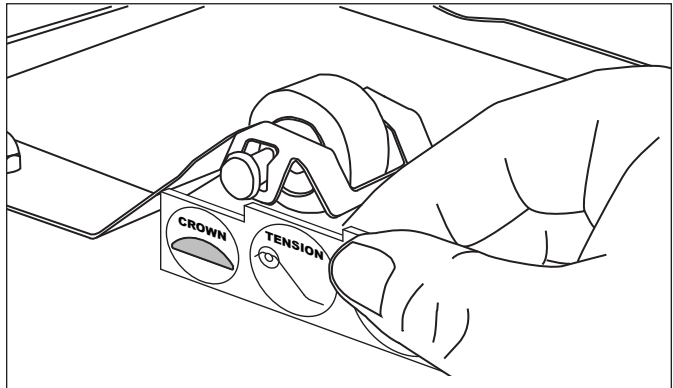

Figure 15. Measuring Roller Tensioner
Be sure Belt Wrap ends are aligned as shown in Figure 15 or damage to the Belt Wrap will occur.
2. The space between the inner Conveyor Cover and the bottom of the Tensioner wheel should be 13/16" (2.1 cm) or the height of the TENSION section of the Gap Tool (Figure 15).